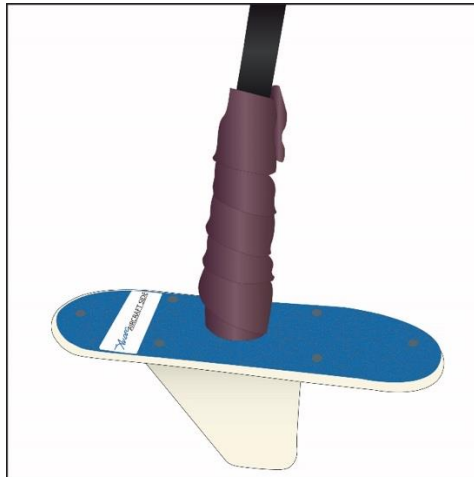

Figure 4
- 3) Coverage shall be from the base of the antenna to at least $\frac{1}{2}$ " beyond the connector and onto the insulation jacket of the coax cable. Trim excess StretchSeal® if necessary. (Figure 4)